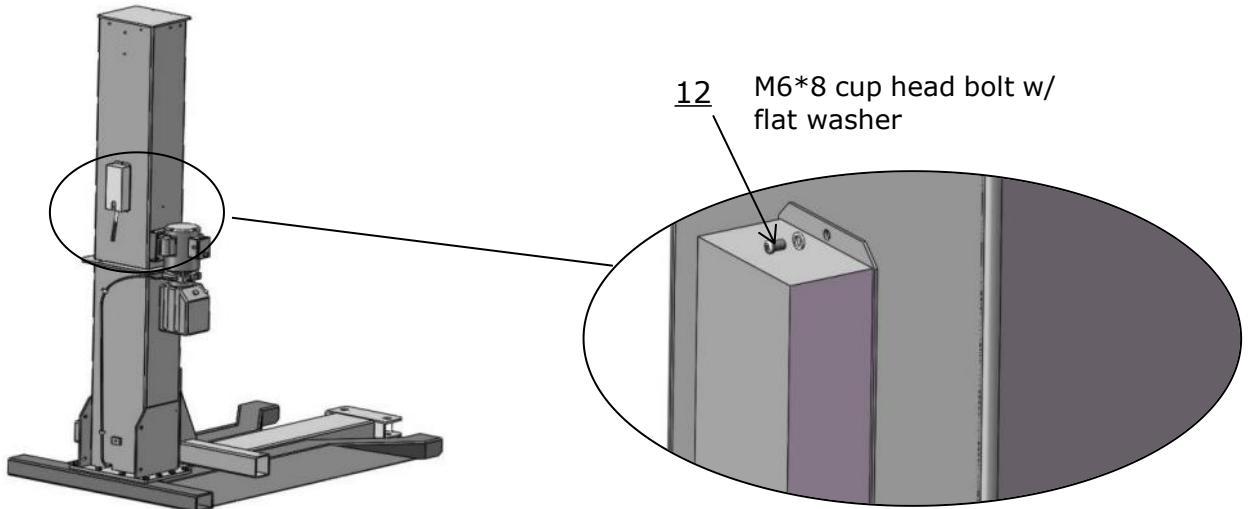

Fig.19
G. Install safety device cover (see Fig.19)